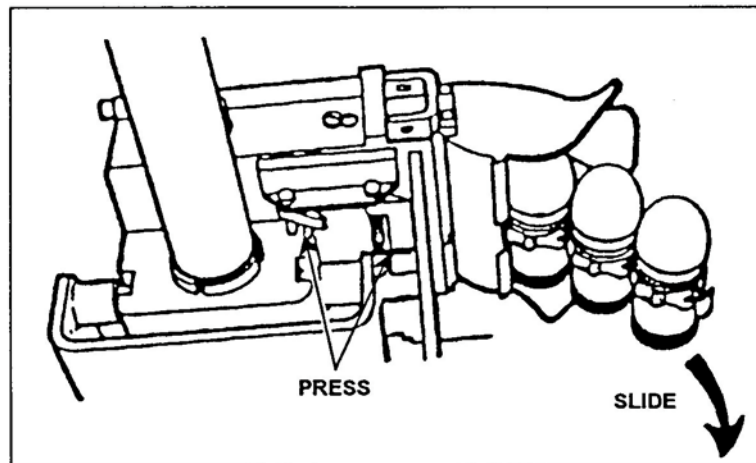

Figure 2. Removal of linked rounds from the feeder.
- a. Open the top cover. Check for rounds in the feeder. If you find any rounds in the feeder, perform the following actions (Figure 2).